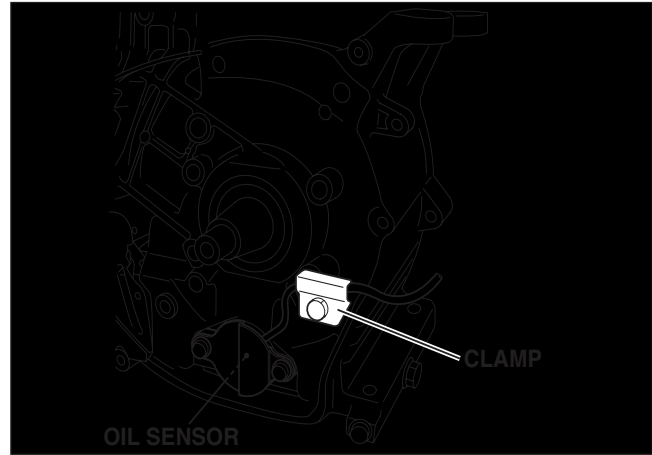

Fig.5-25
| 28 | Oil sensor (option) | (1) Remove the clamp. (See Fig. 5-25) (2) Remove the oil sensor from the crankcase. | M6 × 12mm : 1 pc. M6 × 16mm : 2 pcs. |